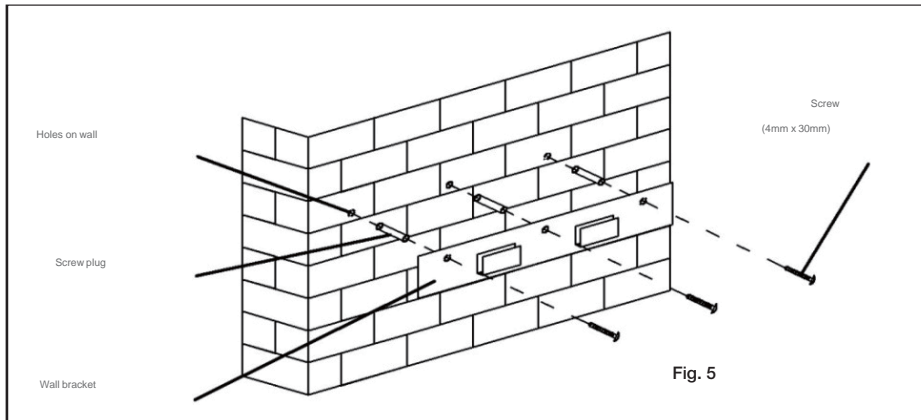

Fig. 5
- Drill 3 x 8mm holes to accommodate the bracket. Screw and tighten the bracket onto the wall with the screws & screw plugs provided. (Fig. 5) .